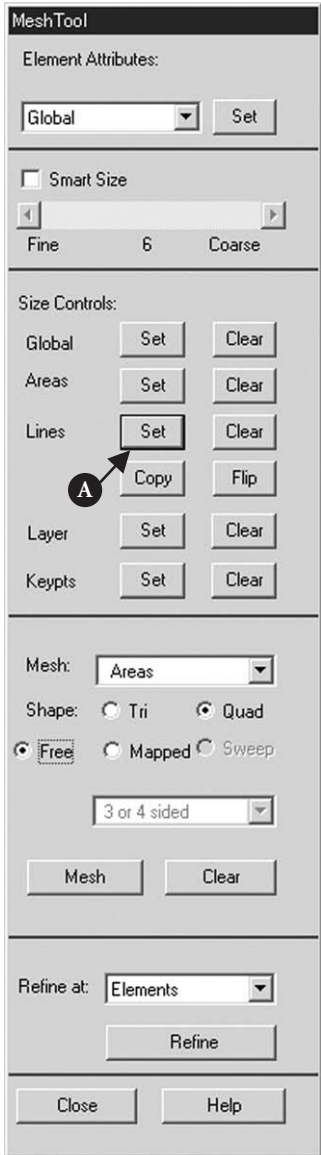

Figure 5.11 Window of **Mesh Tool**.
The window **Mesh Tool** opens (Figure 5.11).
- (3) Input [C] **15** to **NDIV** box and click [D] **OK** button.
- (4) Click [A] **Lines-Set** box in Figure 5.11 and pick **Line 2**, **Line 6**, and **Line 9** on **ANSYS Graphics** window. Then click **OK** button.
- (1) Click **Mesh** on the window **Mesh Tool** in Figure 5.11 and the window **Mesh Areas** opens (Figure 5.16). Click [A] **Pick All** button when all areas are divided into elements as seen in Figure 5.17.